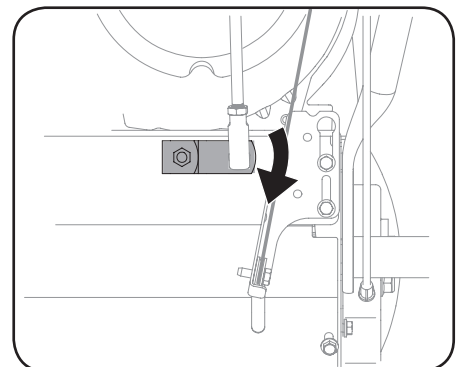

Figure 2-41
9. Pivot shift bracket downward as far as it will go. See Figure 2-41.